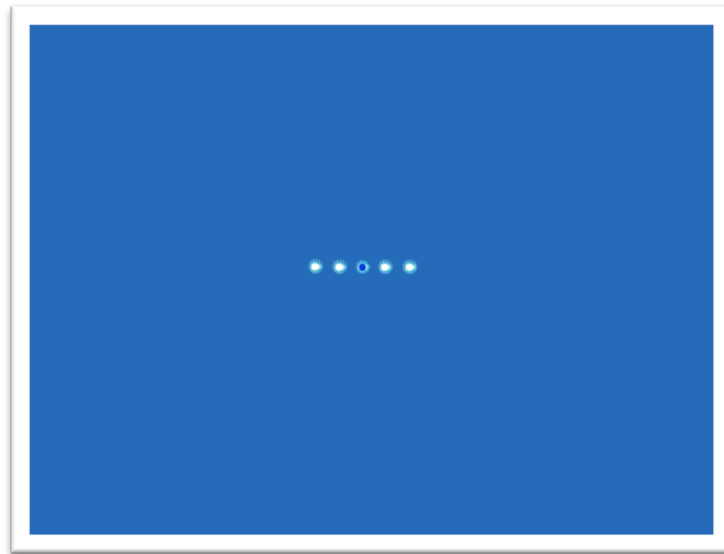
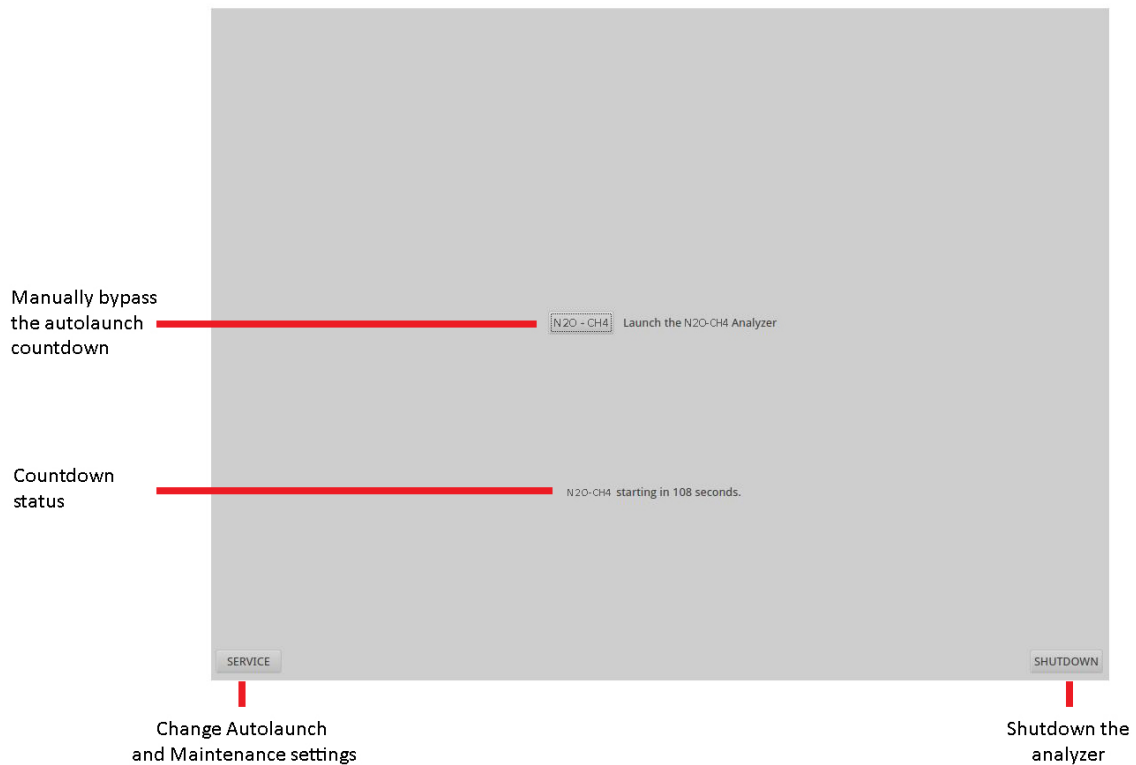
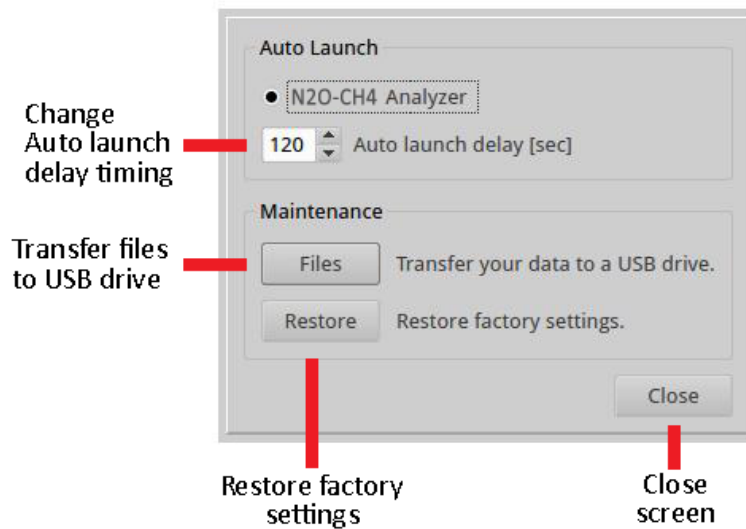

Figure 9: Start-up Screen in Busy Mode
Figure 11: Launch Service Screen
Figure 12: Auto Launch Screen
The internal computer initializes, and a screen (Figure 9) displays as the program loads. The *Launch Service* screen displays after initialization. (Figure 11)
- a. The launch button is the abbreviated name of the gas analyzer. For example, the GLA151-N2OM1 button displays **N2O-CH4**. (Figure 11)
3. Click on the maintenance **SERVICE** button (Figure 11) if you need more time or need to choose a maintenance setting. (Figure 12)
- The launch button is the abbreviated name of the gas analyzer. For example, the GLA151-N2OM1 button displays **N2O-CH4**. (Figure 11)
Figure 11 shows the *Launch Service* screen.
Figure 12 shows the *Auto Launch* screen.